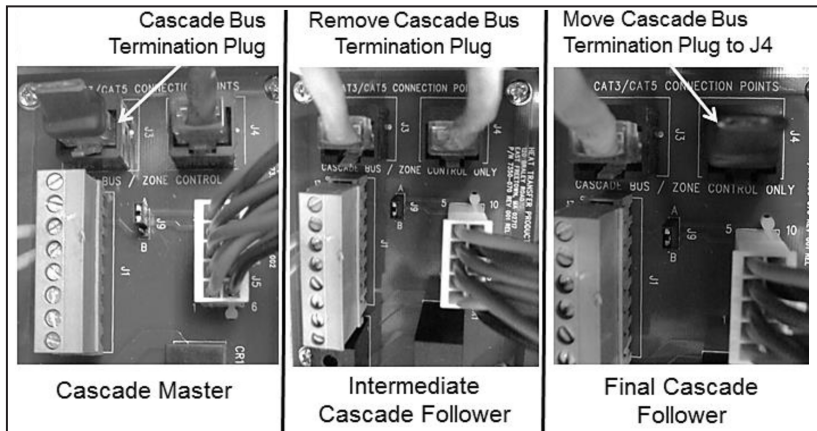

Figure 27 - Cascade Termination Plug Detail
1. A Cascade Bus Termination Plug has been installed on the customer connection board of this boiler. The purpose of this plug is to stabilize communication between multiple boilers and reduce electrical "noise". See Figure 27 for Cascade Bus Termination Plug installation detail.